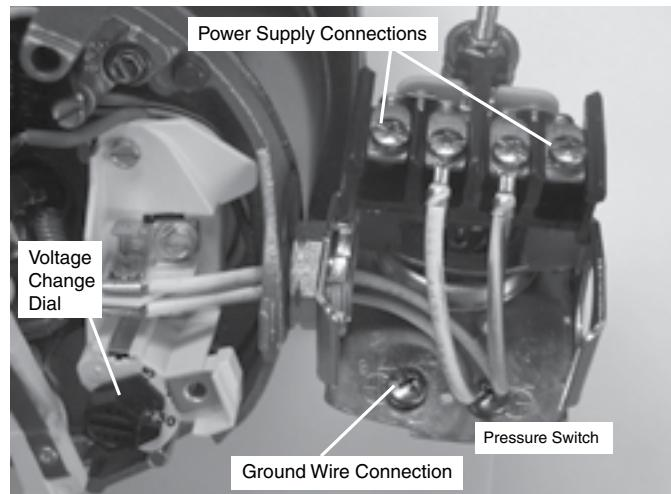

Figure 8: Voltage set to 230 volts, Dial Type
3. Attach the incoming power leads to the two outer screws on the pressure switch as shown in Figure 8.
4. Attach the ground wire to the grounding connections as shown in Figure 8.
4. Connect the power supply wires to the pressure switch as shown in Figure 8, Page 7.